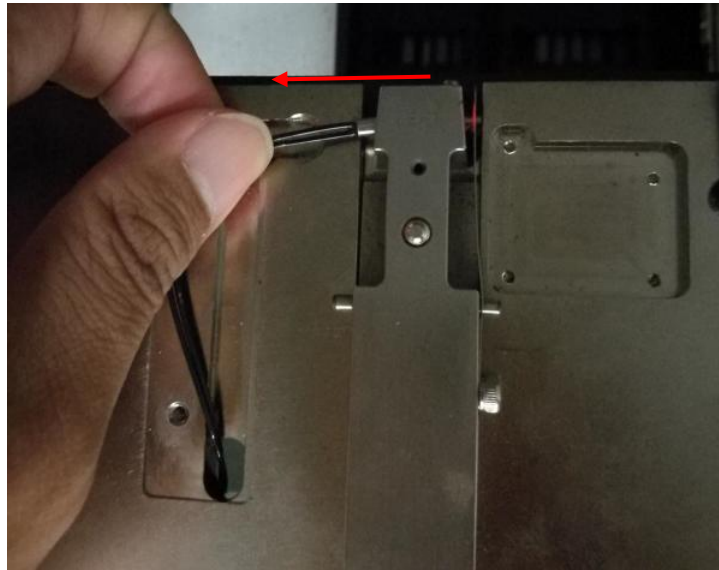

Figure 7 PIP Sensor Cable Removal
8. Remove PIP Sensor Cable as shown in Figure 7.